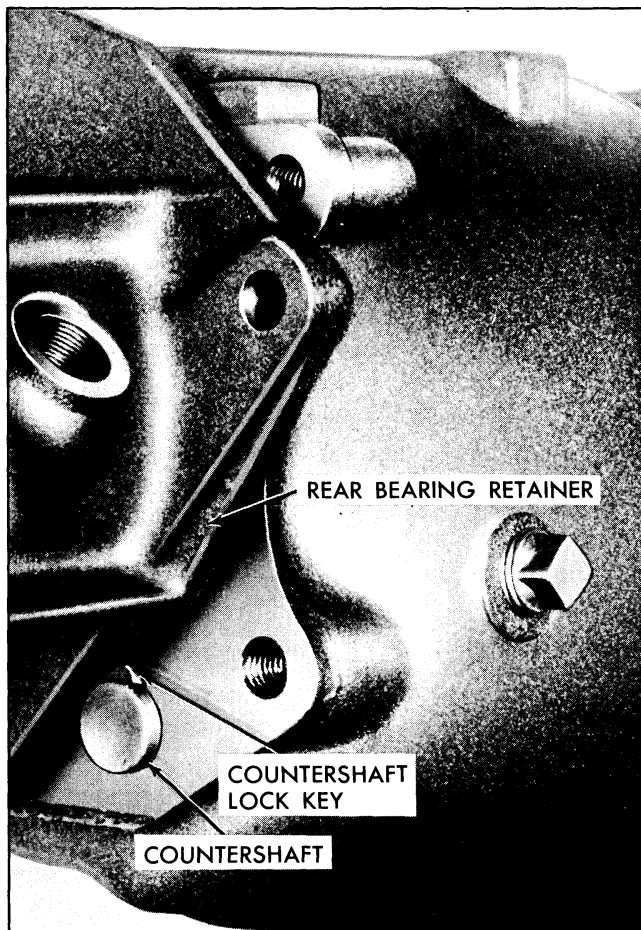

Fig. 7A-21 Rear Bearing Retainer Rotated
15. Carefully install mainshaft and extension assembly through opening in rear of case (Fig. 7A-13), making certain front end of mainshaft enters roller bearings at rear of main drive gear and mark on clutch sleeve lines up with slot in synchronizing ring.
17. With rear bearing retainer extension rotated as shown in Fig. 7A-21, insert countershaft through exposed shaft opening in rear of case, making certain the shaft passes through both thrust washers before it enters countergear.